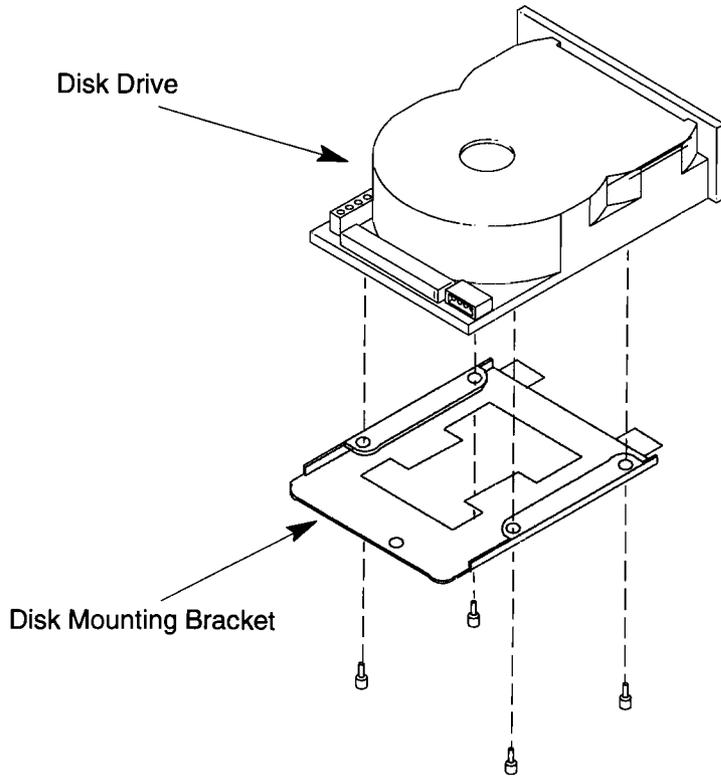

Figure B-24. Removing the Disk Drive Mounting Bracket on Quantum and Seagate Drives
1. Using a flatblade screwdriver, remove the four screws from the bottom of the disk drive assembly to remove the disk drive mounting bracket, as illustrated in Figure B-24.
3. Replace the disk drive mounting bracket on the disk drive. See Figure B-24.